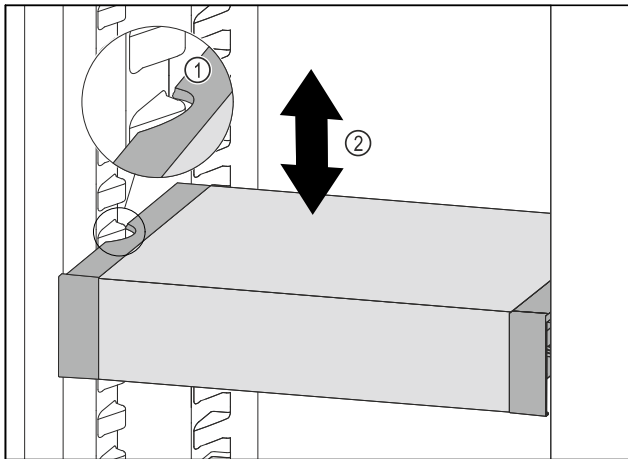

Fig. 67
- ▶ Pull VarioSafe forwards until the recesses in the side of the VarioSafe are at the level of the support rib in the refrigerator compartment. Fig. 67 (1)
- ▶ Move VarioSafe up or down in the refrigerator compartment until the desired height is reached. Fig. 67 (2)